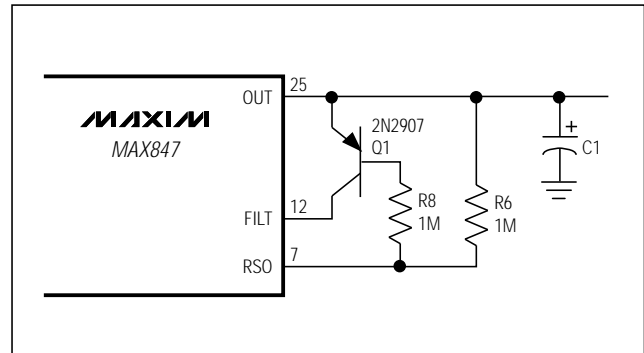

Figure 3. Add PNP to allow start-up in Run Mode before the SYNC input clock is active.
- 3) If the SYNC clock is used, the connection shown in Figure 3 is added, and the SYNC clock is present when RSO is cleared (logic high).